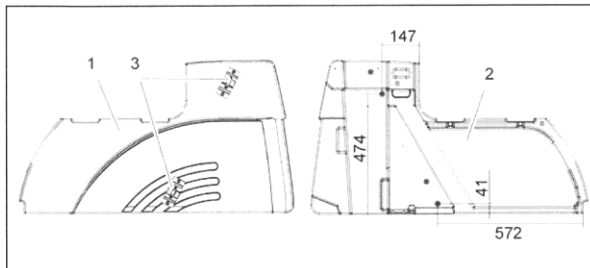

Fig. 3 Mount holder for cleaner tube
2. Loosen screws at the inside of the left-hand fairing (Fig. 3/1).
4. Bore two holes ($\varnothing 7$ mm) acc. to drawing (Fig. 3/2) from the fairing inside through both walls.
5. Place both holders (Fig. 3/3) at the outside wall, align and bore holes.